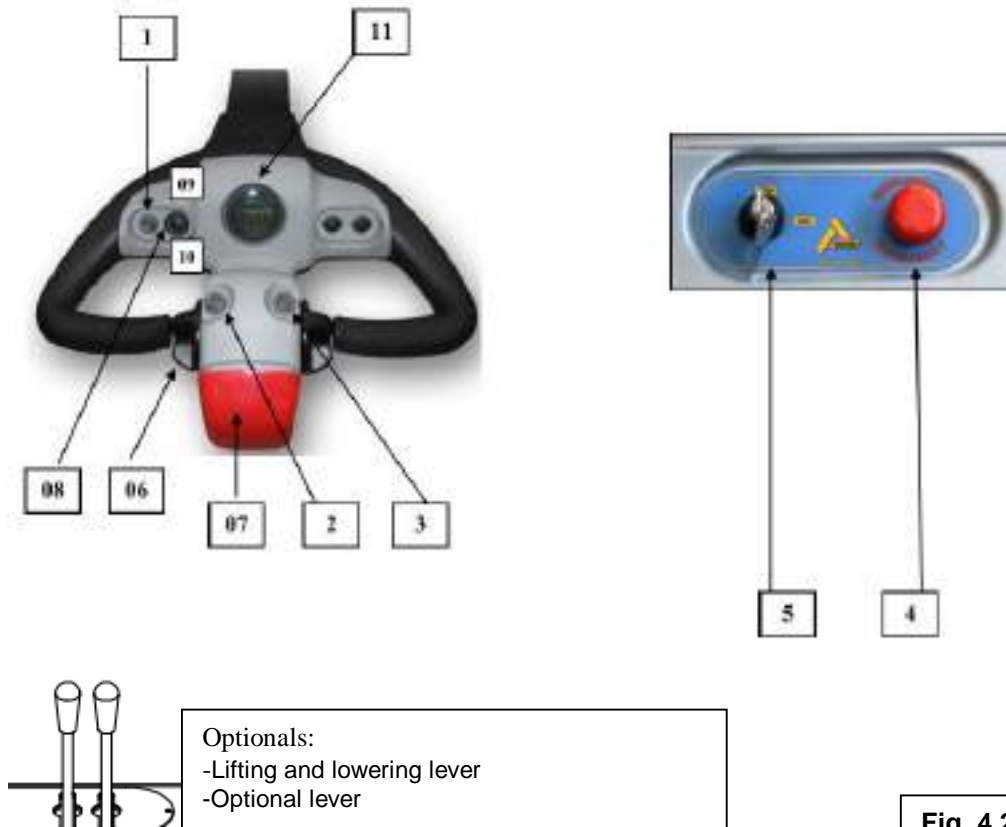

Fig. 4.2 Panel control
The drives for the truck working are both on the driving steering wheel and on the instrument board, as you see in Fig. 4.2
- For the movement, rotate the butterfly switch (see Fig. 4.2, 09 particular) as described in the previous chapter *4.3.1 Drives*.